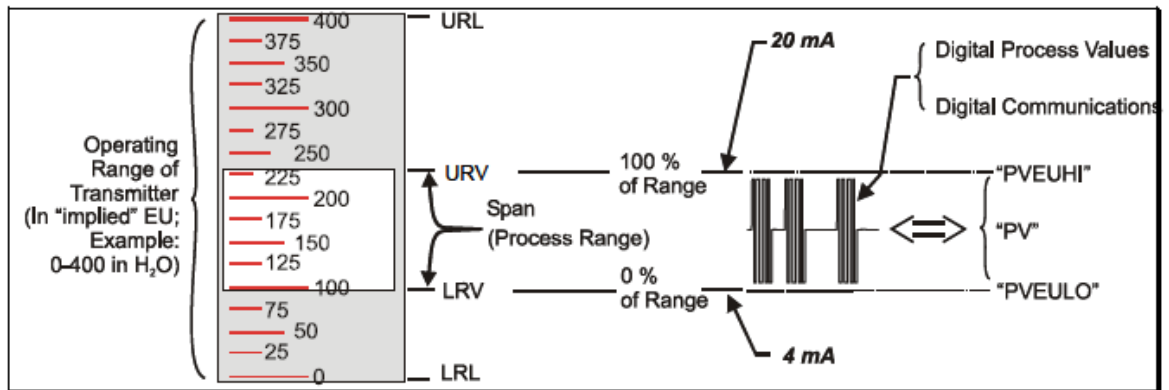

Figure 4 – DE Mode Value Scaling
Much of the operation in the Digitally Enhanced (DE) mode is similar to that of analog operation. The essential characteristics of DE mode operation are shown in Figure 4.
As indicated at the right of Figure 4, output values of process variables, as well as communications are transferred to a receiving device digitally. The digital coding is Honeywell proprietary, which requires the use of DE-capable Honeywell control equipment.